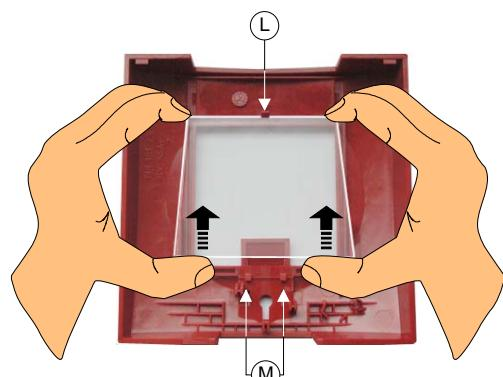

Fig. 6
Glass screen: Remove any broken splinters before replacing the glass! Push the top edge of the replacement screen up against lug (L) and press the screen gently into position until it snaps under the two lugs (M) at the bottom of the window (Fig. 6).